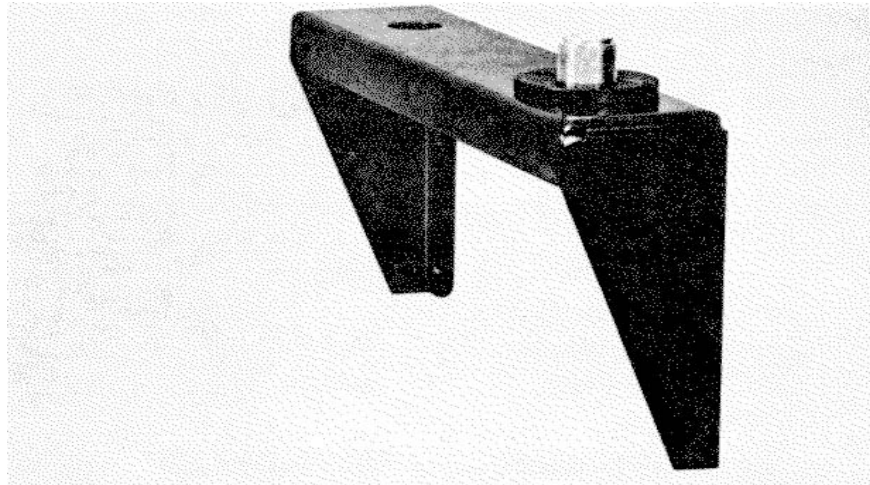

Figure 1-10. Antenna Mounting Bracket
(5) ANTENNA MOUNTING BRACKET. - Refer to figure 1-10. The antenna mounting bracket permits vertical mounting of the omnidirectional Antenna AS-1404/PRC-41 in a vehicular installation. It is normally mounted on the rear of Mounting MT-2976/PRC-41 but may be secured to any flat vertical surface by four screws or bolts. The antenna mounting bracket has a BNC-to-BNC feedthrough connector. The upper part of this connector fits Antenna AS-1404/PRC-41 and the lower part mates with a connector on Radio Frequency Cable Assembly CG-55G/U.